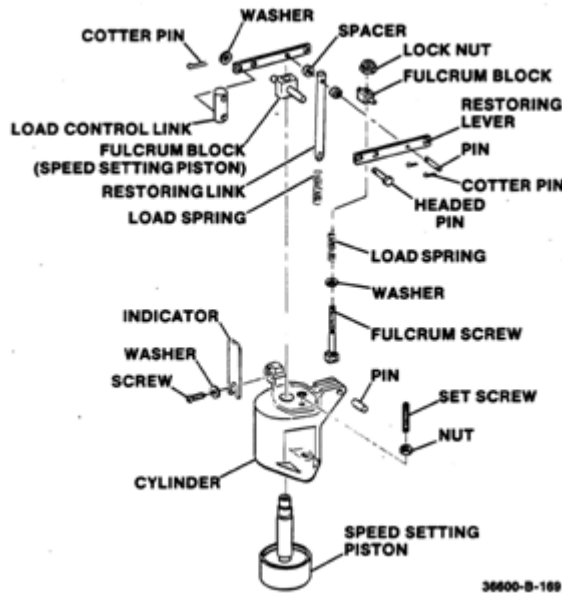

Figure 5-58 Speed Setting Servo
35. Assemble speed-setting servo (Figure 5-58).